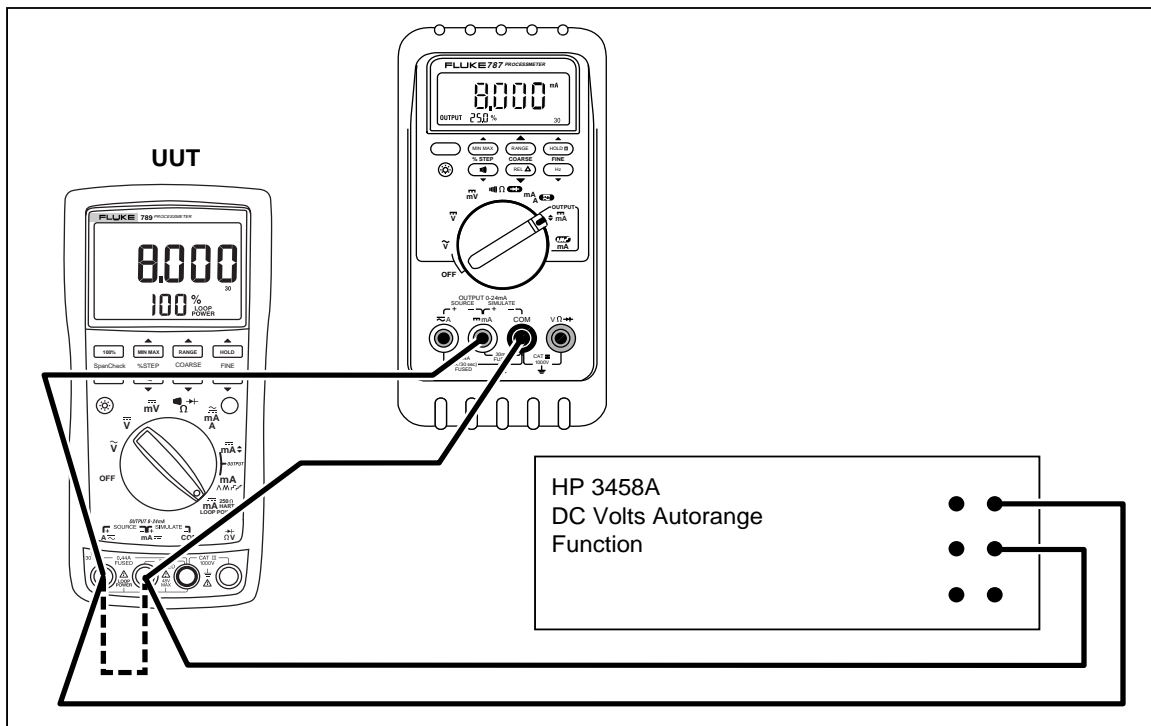

Figure 2. Verifying Loop Power
4. Connect the voltage input terminals of the multimeter to the **SOURCE +** and **SOURCE -** terminals of the UUT as shown in Figure 2.